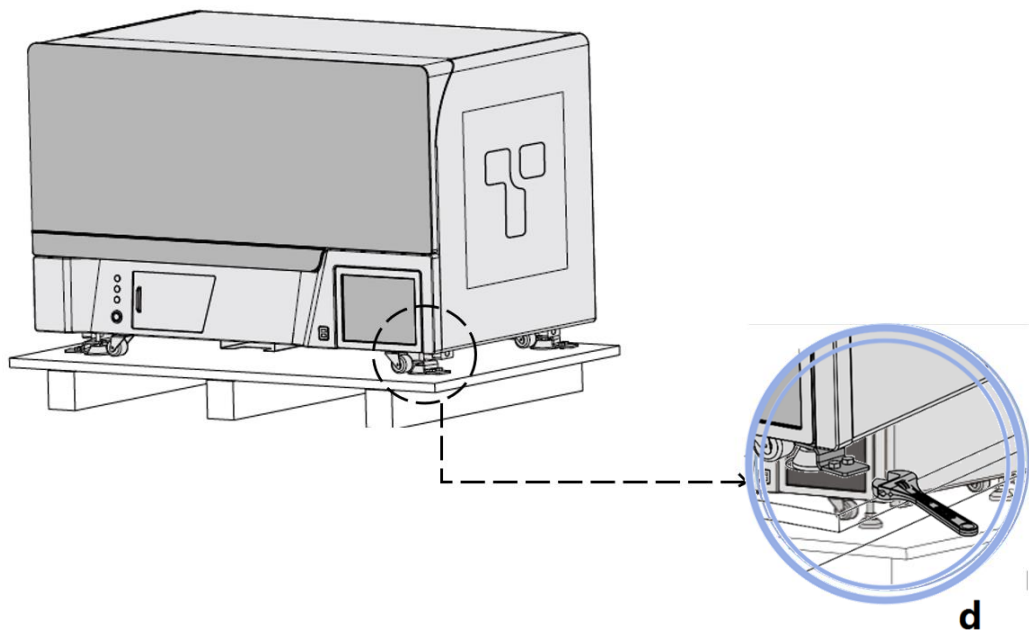

Figure 2-2d. Wooden Case Unpacking Step 4
**4th Step:** Each supporting foot is provided with a fixator, which is fixed on the support plate by two screws as shown in figure 2-2d. Please disassemble the screws on each fixator and remove the fixator, then rotate up each supporting foot to make the instrument supported by four transport wheels.